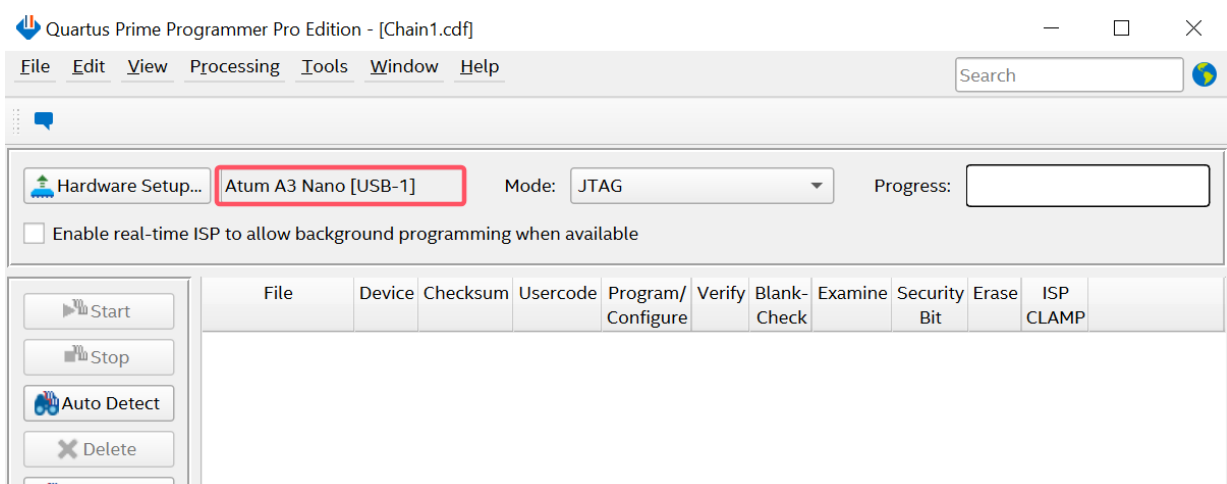

Figure 5-13 Setting USB blaster
3. Return to the **Quartus Prime Programmer** window. First, ensure that the USB Blaster is detected. If it is not, click **Hardware Setup** to select it (see **Figure 5-13**).